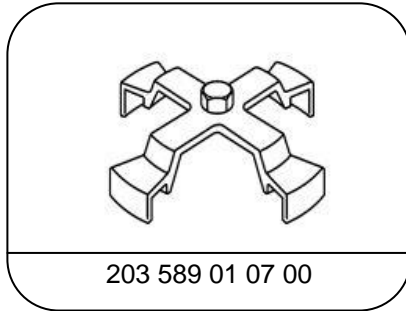

Figure 3 (Fuel residue outlined)
- Attach (detailed) photographs of the suspect area to the case. (see example, Figure 3).
**Note:** Fuel residue (outlined, Figure 3) and/or liquid fuel must be visible in photo.